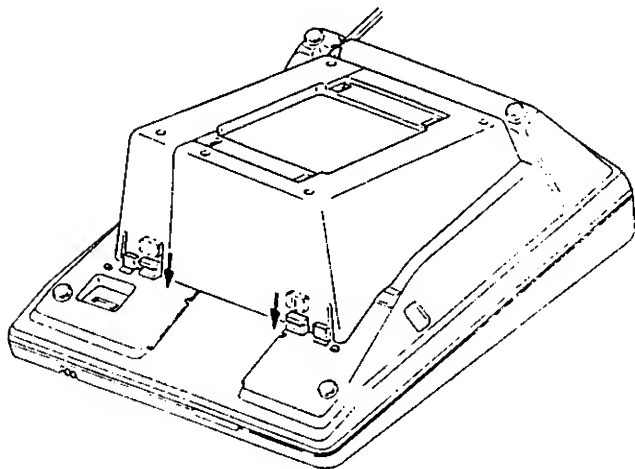

Figure 260-9
5. Slide both Plastic Mount Supports down as shown (See Figure 260-9).